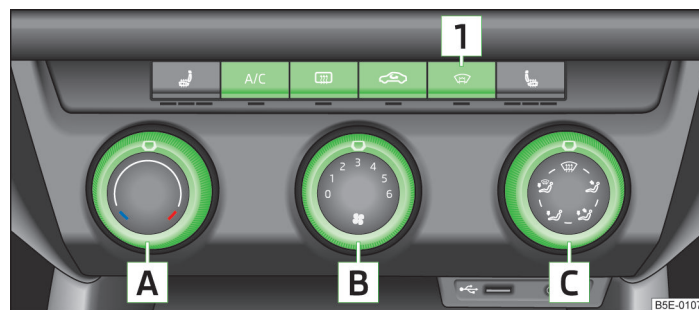

Fig. 108 Air conditioning: Control elements
- ✓ **A/C** » Fig. 108 on page 99 switched on.
Functions of the individual controls » Fig. 108:
Recirculated air mode is switched off automatically if the air distribution control C » Fig. 108 on page 99 is turned to position . Recirculated air mode can be switched on again from this setting by repeatedly pressing the symbol button . ▶